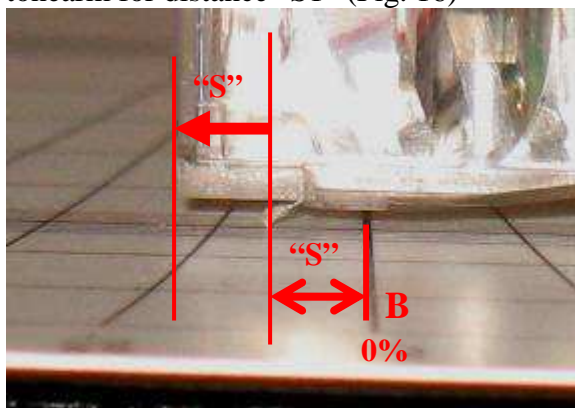

Fig.16 Stylus tip is in front of zero point B.
9. If stylus is in front of point B, pull the cartridge forward (along side) in the slots of the headshell for approximately the same distance “S” as stylus is overhanging zero point B. If it is behind point B, push cartridge backwards towards the pivots of the tonearm for distance “S1” (Fig. 16)